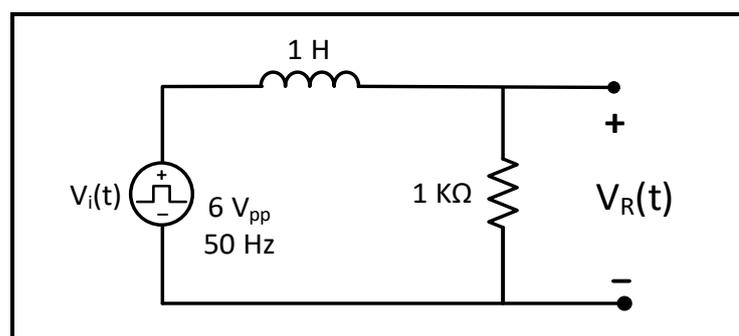

Figure 6.8
5. **Repeat steps 1-4 for the circuit of Figure 6.8**, but this time showing $V_R(t)$ instead of $V_L(t)$, and estimating the value of τ_R .